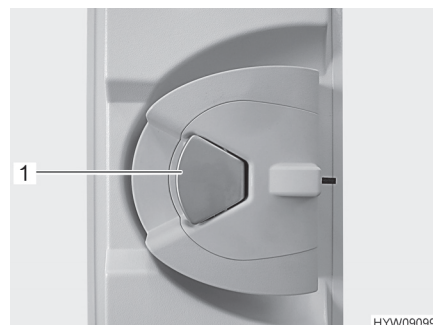

Fig. 52 Door lock (conversion door, inside)
- When the door lock is locked: Pull once at the door handle (Fig. 52,1). The door is unlocked.
- Pull on the door handle (Fig. 52,1). The door is open.
- Push the door handle (Fig. 52,1).